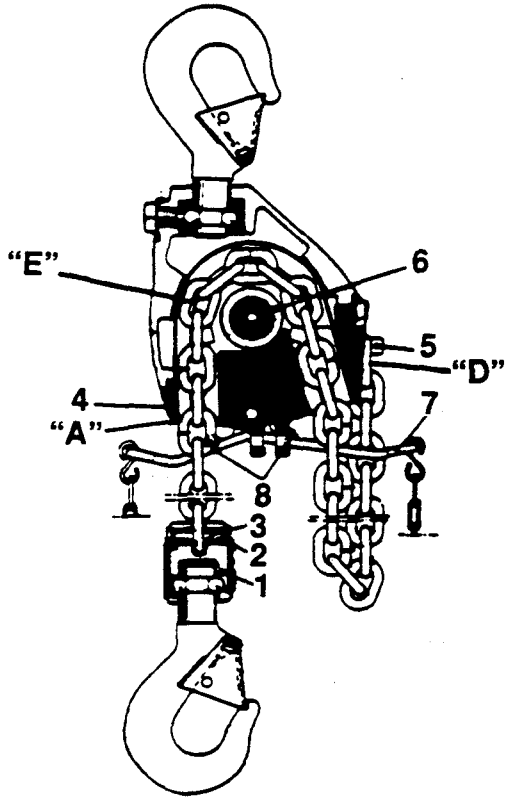

FIGURE 1
Before hanging up the hoist, attach the twist rod control or the pendant control if used. To attach these to hoist see the instructions provided with the controls on pages 23 and 27 of this manual. If the accompanying chain control is to be used, it should be attached with the "S" Hooks to the control yoke (7) as shown in figures 1 and 2.
To install the chain the hoist should be hung up by the suspension hook and connected to the air supply line. The air pressure should be reduced to approximately 14.5 psig. The hoist is furnished with a steel wire which is fastened around the chain wheel (see 6 in figures 1 and 2.)
1. ACL 1/4 And 1/2 Ton Hoists (Reference Figure 1).
- a. Remove the locking ring (2) and the pin (3).
- b. Insert the end link of the chain into the hook holder (1) and lock with the pin (3) then add the locking ring (2).
- d. With the aid of the steel wire pull the end link up into the chain guide (4). NOTE: To prevent a twist in the chain the end link put in guide must be turned as shown by D in figure 1. The standing link of the chain must have the chain weld away from the center of the chain wheel (6) as shown by E in figure 1.
ADJUSTMENT OF TRAVEL LIMIT ON CONTROL YOKE (REFERENCE FIGURES 1 AND 2)